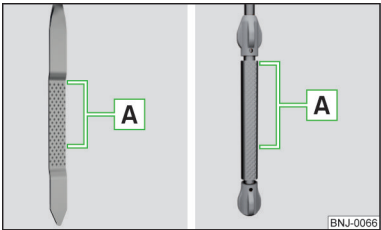

Fig. 170
The oil level must lie in range » Fig. 170. If the oil level is below range , oil must be added.
- The oil level must never be below range » Fig. 170 there is a risk of damage to the engine as well as to the exhaust system.